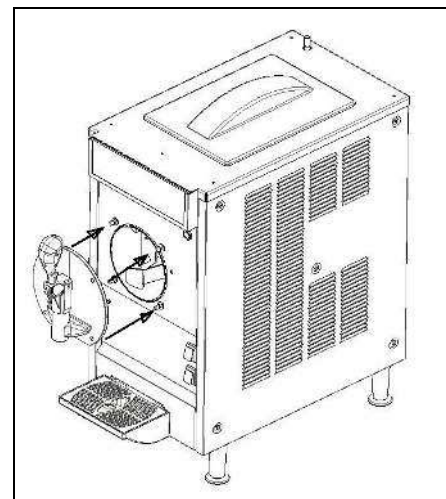

Fig. 22
- Carefully lubricate the sealing gasket of the front flange and refit it back so that the locating pin mates with its seat (fig. 22).